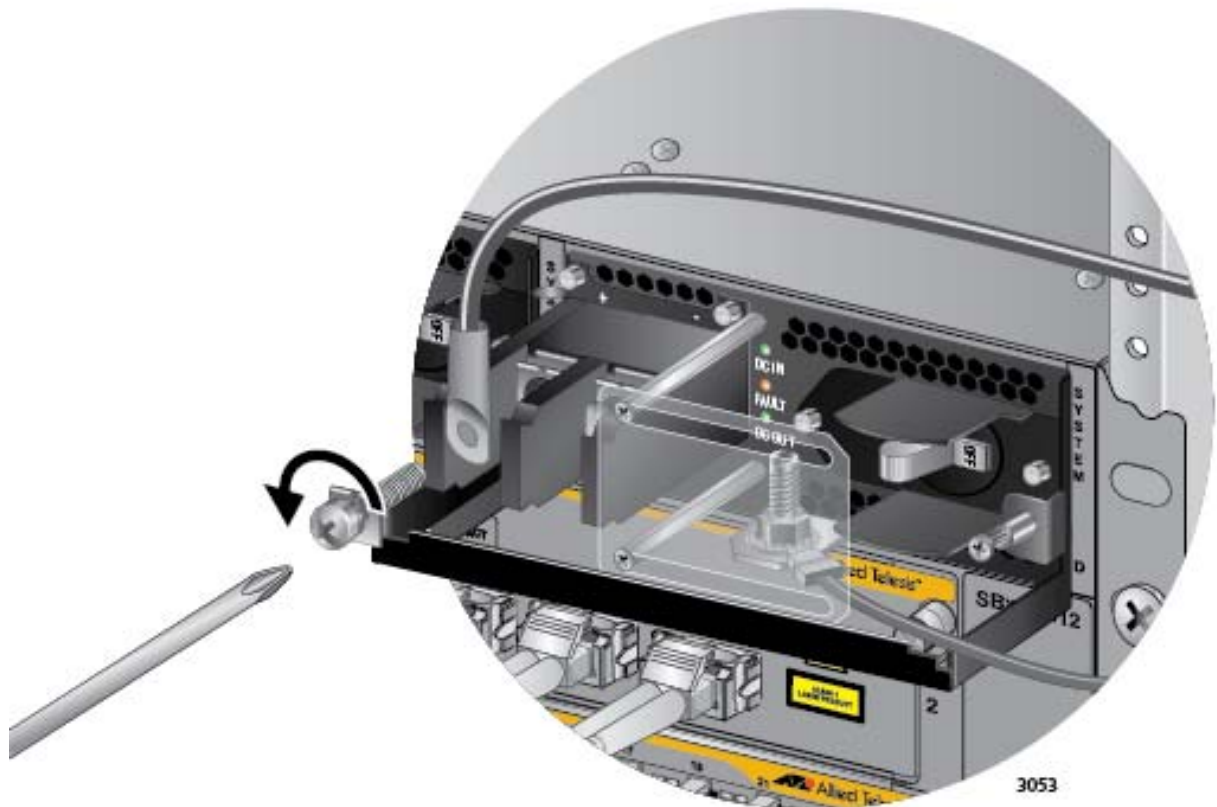

Figure 137. Removing the Positive Lead Wire from the Terminal Block
6. Use a #3 screwdriver to remove the positive (+) lead wire from the terminal block. Refer to Figure 137 on page 221.